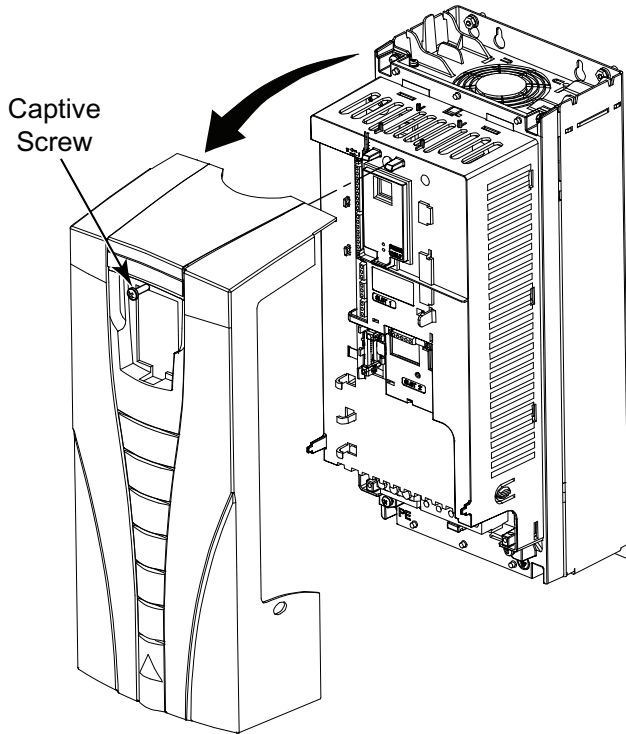

Fig. 38 — Remove ACH550 VFD Front Cover
2. Remove the drive cover (see Fig. 38).